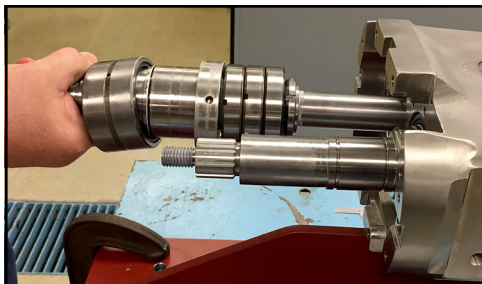

Figure 159 - Pull drive shaft out of gear case
4. Pull the drive shaft out of the gear case as shown in Figure 159.